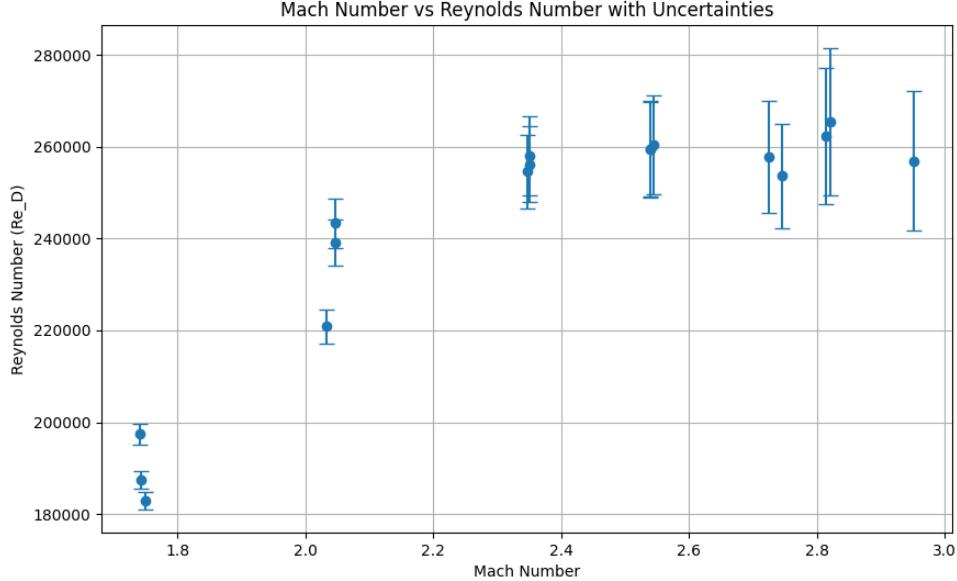

Figure 1: Mach number vs. Diametric Reynolds number
4. These changes correlate with the increase in Reynolds number observed in Figure 1.